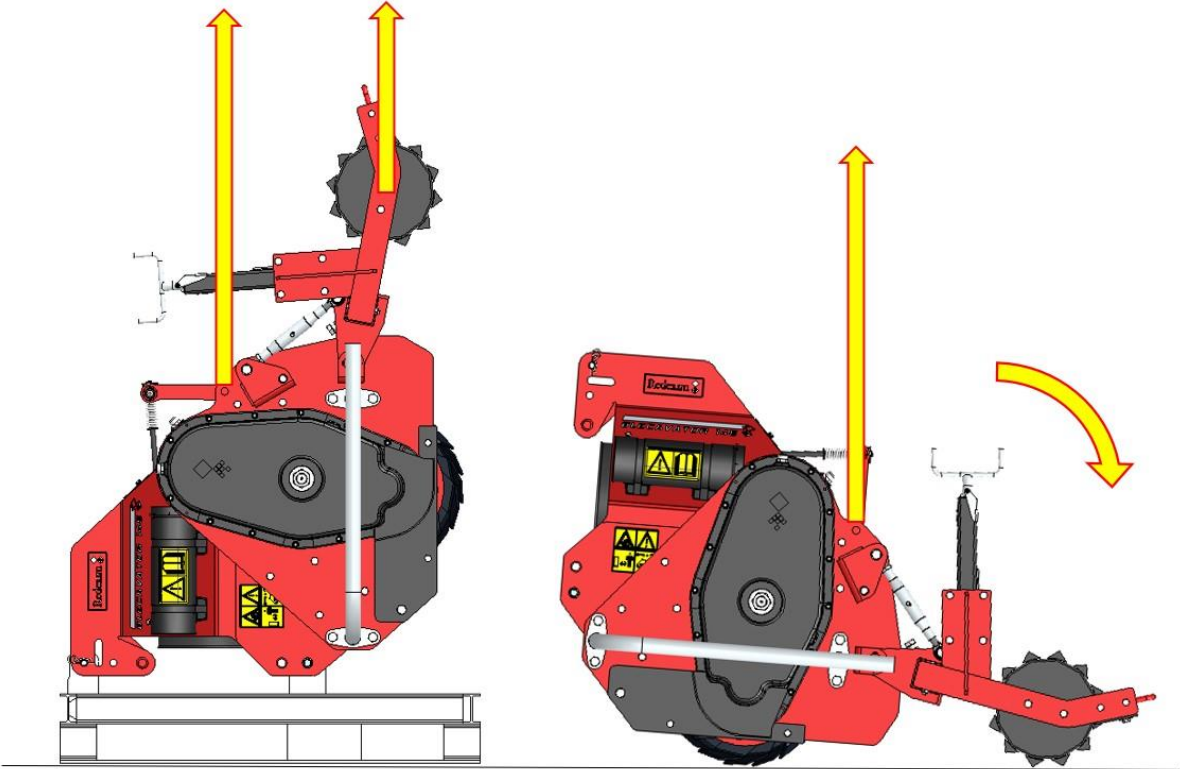

Fig. 3
1. Attach a cable to the two hoisting points (1) and one around the rear roller (2).
3. Loosen the pallet (4) by removing the pins (3).
5. Slowly lower the machine and tilt it until it stands safely on the ground (see Fig. 3).